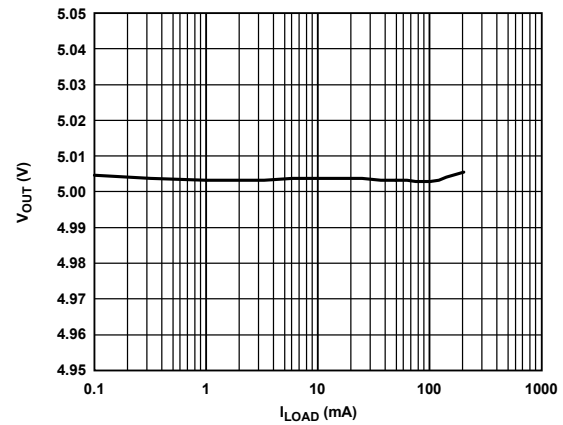

Figure 6. Output Voltage (V_{OUT}) vs. Load Current (I_{LOAD})
- ¹ Based on an endpoint calculation using 100 μA and 200mA loads. See Figure 6 for typical load regulation performance for loads less than 1mA.